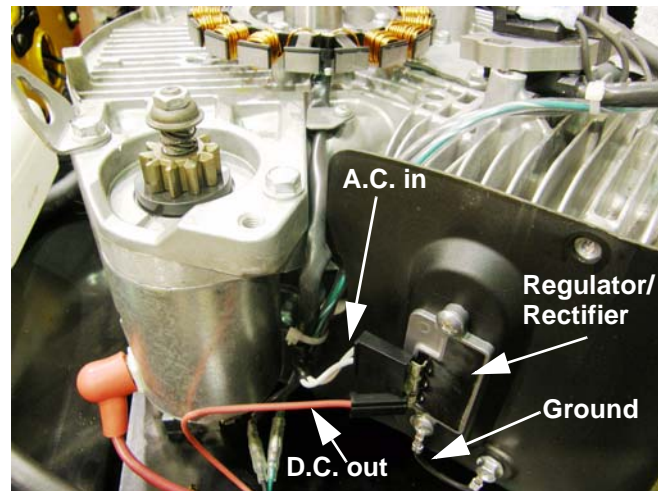

Figure 7.21
3. The regulator/rectifier takes alternating current and converts (rectifies) it to D.C. (Direct Current). The regulator rectifier also regulates the voltage to a nominal 12 volts. See Figure 7.21.